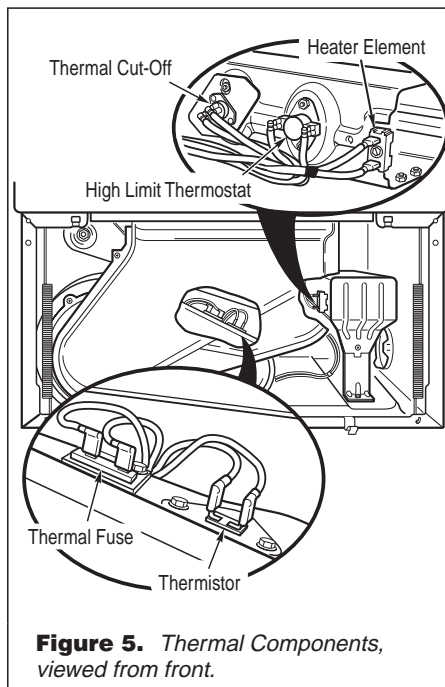

Figure 5. Thermal Components, viewed from front.
Remove the toe panel to access the thermal components. See figure 5.
3. Using an ohmmeter, check the continuity across the thermal cut-off. See figure 5, page 5 for location.